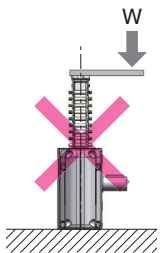

Figure 2
7. Install the unit so that the load put on the main body will act on the shaft placed in the same travelling direction as that of the Zip Chain. If the direction of action or position is not correct, the Zip Chain may receive bending loads or lateral loads and may be damaged. (Figure 2)